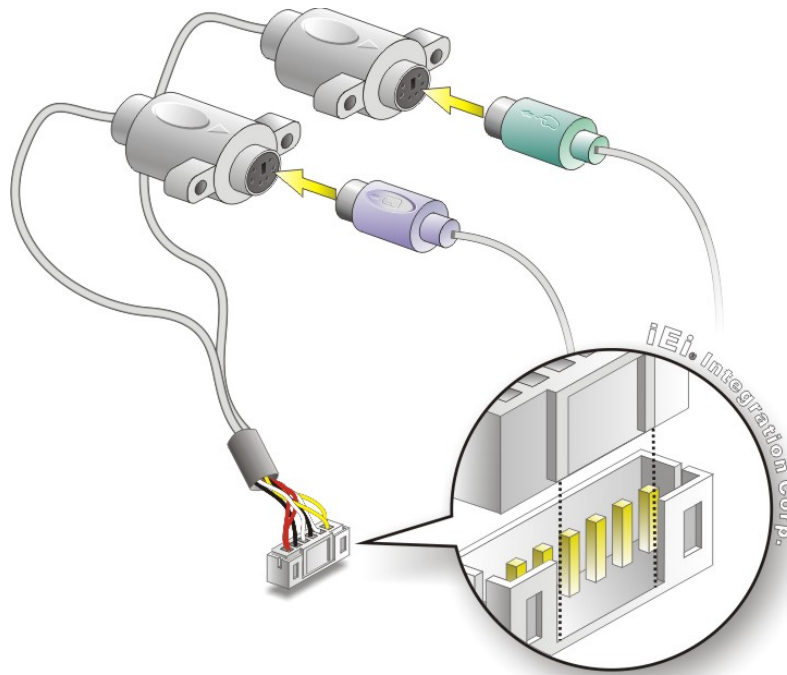

Figure 4-5: Keyboard/mouse Y-cable Connection
Step 2: Align the connectors. Correctly align pin 1 on the cable connector with pin 1 on the PM-LX2-800-R11 keyboard/mouse connector. See **Figure 4-5**.
Step 3: Insert the cable connectors Once the cable connector is properly aligned with the keyboard/mouse connector on the PM-LX2-800-R11, connect the cable connector to the onboard connectors. See **Figure 4-5**.